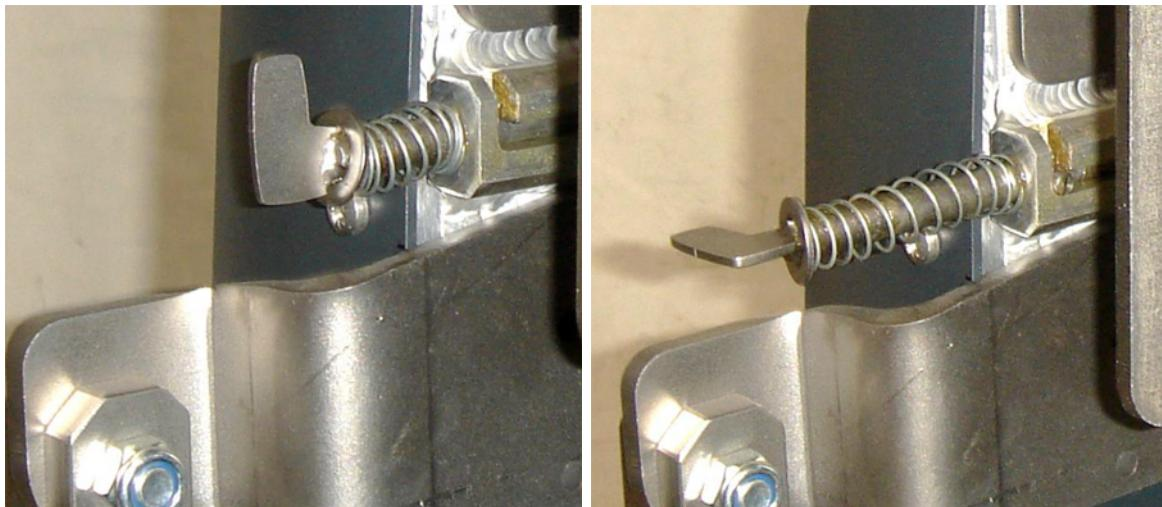

Figure 4-18 Tilt locked (left panel) and unlocked (right panel)
6. Ensure both tilt locking systems are unlocked (Figure 4-18) and that the pan lock is unlocked.